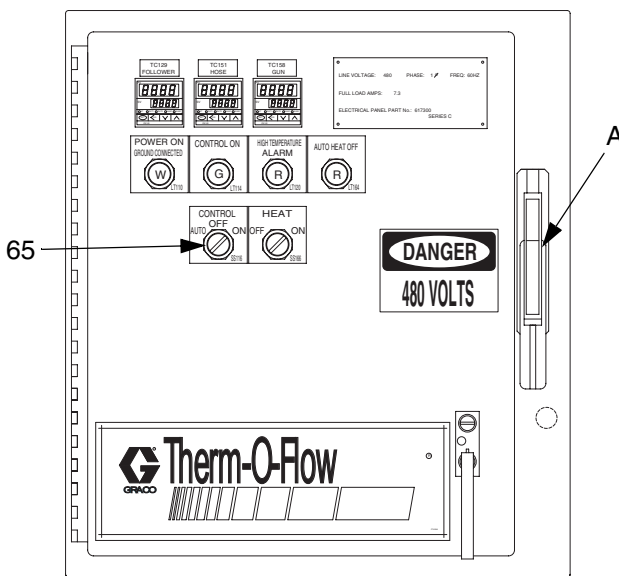

FIG. 3
4. Turn the main electrical disconnect (A) ON. FIG. 3.
5. Turn the CONTROL switch (65) to ON.